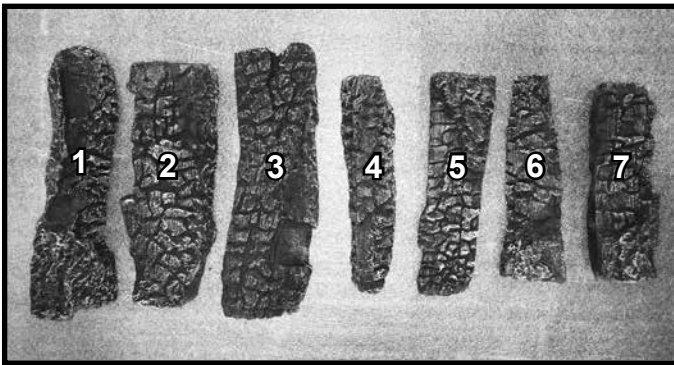

Figure 1. Log Identification - EXCURSION-I, TRILLIANT25IN
**NOTICE:** To simplify the installation process, use Figure 1 to positively identify each individual log before beginning installation.